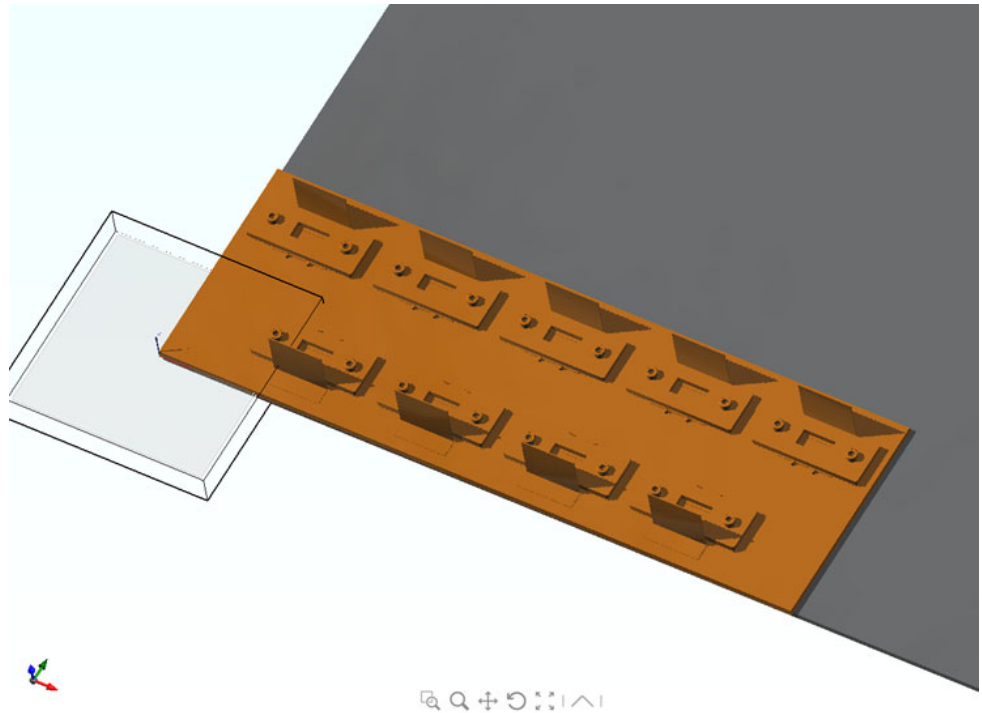

Figure 280: Importing and STL Model
- This demonstration utilizes a fixture with coupons clamped in it. See Figure 280 (below).